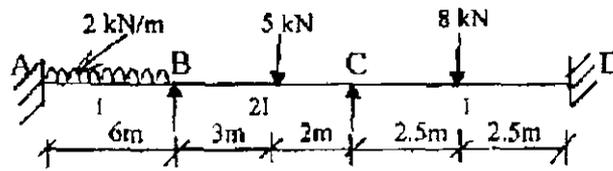

Fig. 15 (a)
15. (a) Analyse the continuous beam shown in Fig. 15 (a) by moment distribution method and draw the BMD.